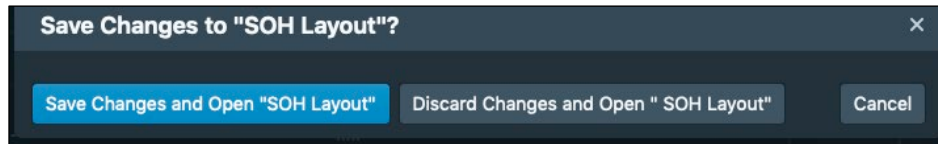

Figure 5. Prompt to Save or Discard Changes.
- 2) Open Workspace – Shows the current user’s available workspace layouts. Initially, only the default layout, SOH Layout, is available. More layout options are made available when the user saves them by selecting Save Workspace As. If the user makes changes to the current workspace layout and does not save it, they will be prompted to save or discard the changes when attempting to open another workspace (see Figure 5). A tooltip providing a brief description of each option can be brought up by hovering the cursor over the desired option.